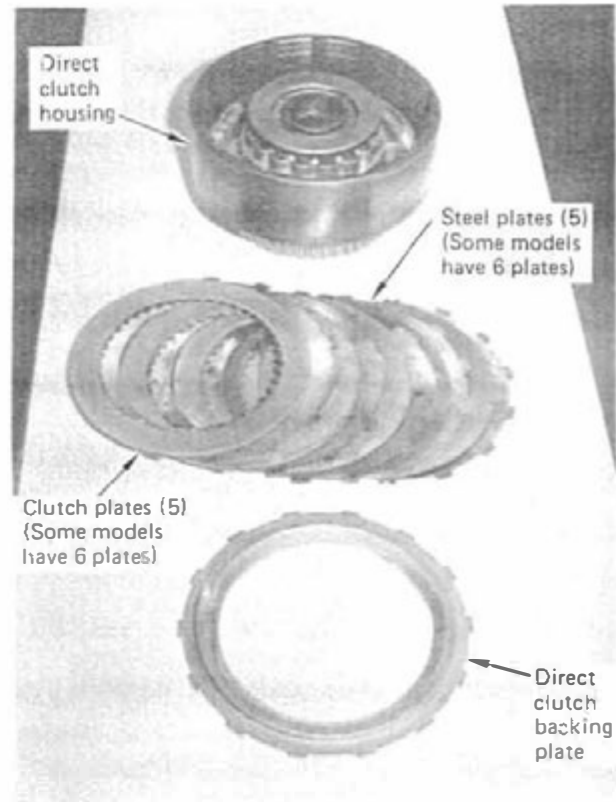

FIGURE 22
STEP 1. Remove the snap ring from the front of the direct clutch housing. (See Fig. 22) Remove the direct clutch backing plate, five clutch plates and steel plates. (Note: Some high performance Chevrolet units may have six plates and steels.) Discard the clutch plates and steel plates.
IV. Direct Clutch (Refer to Figure 22)